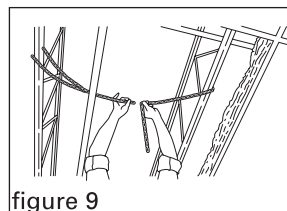

figure 9
8. Using the S-hooks provided, secure the Saf-T-Chain® to the supporting structure above, centering the chain directly over the electrical box (figure 9). **NOTE:** The long chain should be attached to the support and use the shorter chain for centering.